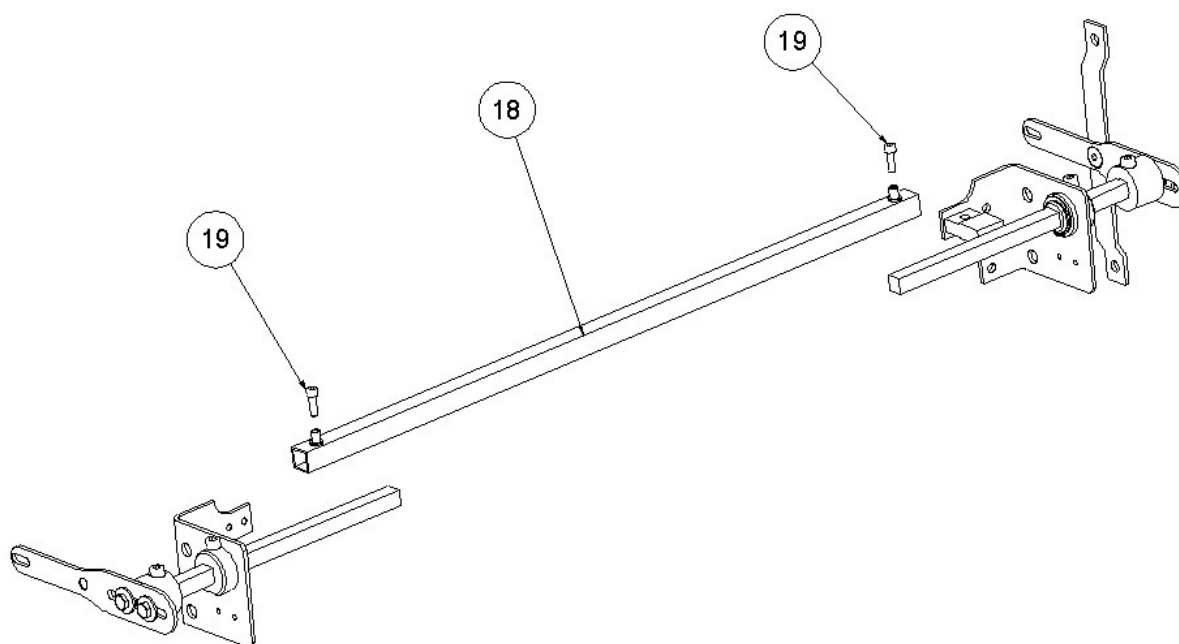

Figure. 5
6. DRIVING BAR AXLE PLACING: The joined arms must be introduced in endings of the driving bar axle (18) and must be screwed through M6 x 20 DIN 912 screws (19). The width of the driving bar can be adjusted introducing more or less the arms into the axle - Fig.5-.